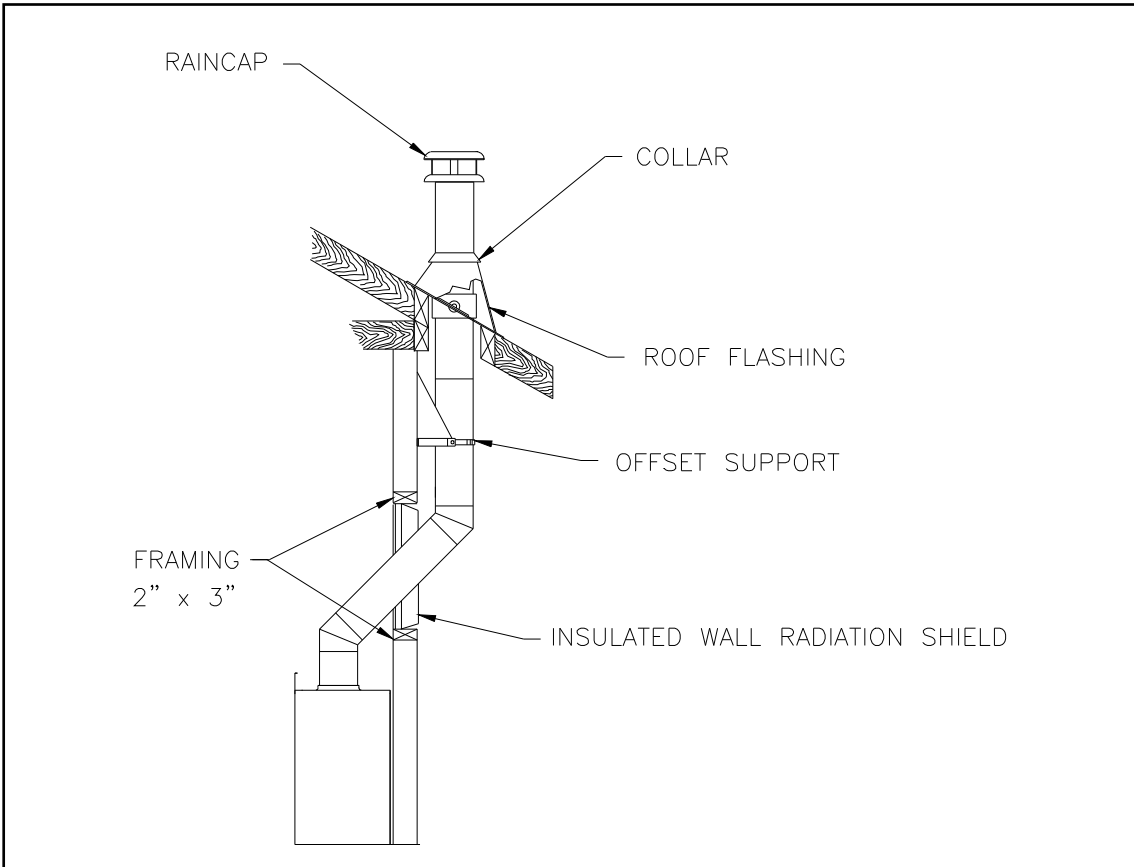

Figure 32
1. Install the first elbow; turn it in the required direction. Fasten it to the chimney with the three (3) ½" (12 mm) metal screws provided with the elbow.
2. Install the necessary chimney lengths to achieve the required offset. Lock the chimney lengths together: it is recommended to use three (3) ½" (12 mm) screws. If the offset length is made of two (2) chimney lengths or more, use an offset or roof support halfway up the offset. If penetrating a wall, install a wall radiation shield (see figures 32 & 33).
3. Use another elbow to turn the chimney vertically. Secure the elbow, using three (3) ½" (12 mm) screws (provided with the elbow).